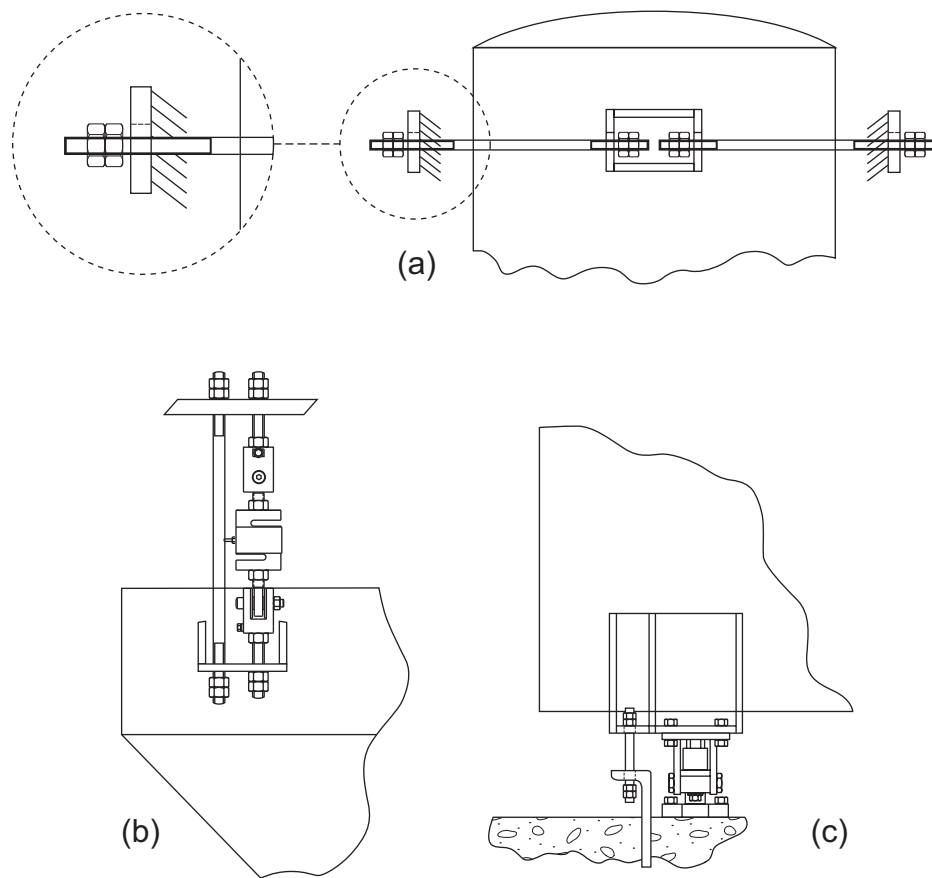

Figure 20-3. Safety Check Rods
As shown in Figure 20-3 \(a\), to be most effective, safety check rods must be fitted at or above the filled vessel's center of gravity. Note that stay rods will perform all these functions and more; however, safety check rods are less critical to system operation and therefore do not require the same attention to detail for successful installation.
- On all vessels mounted in tension where failure of the normal suspension means would allow the vessel to fall and cause injury or damage, see Figure 20-3 \(b\).
- In place of horizontal check rods when it is not practical to use these to ensure the stability of tall slender vessels or those subjected to wind or seismic forces, see Figure 20-3 \(c\).